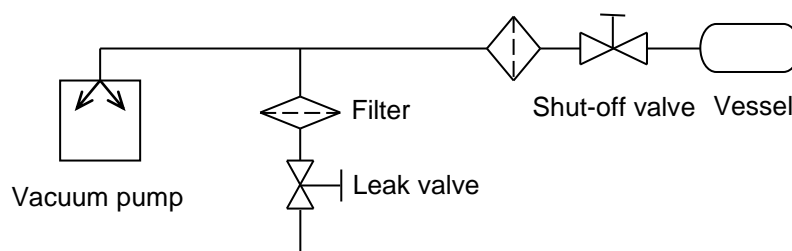

Fig.5 Example of Piping Used When Evacuating a Vessel
- 5) When evacuating a vessel, ensure that a shut-off valve is placed between the pump inlet pipe and the vessel (see Fig.5).